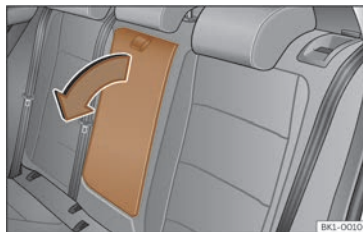

Fig. 94 Folding rear centre armrest (schematic view).
- To *lower* the armrest, pull the cord in the direction of the arrow >>> **Fig. 94.**